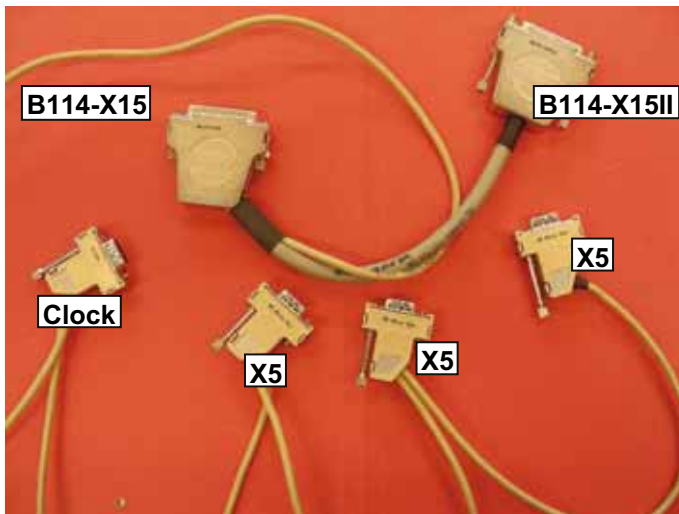

Figure 9.2 Multi Axes Clock Cable A17D79
- Multi Axes Clock cable (A17D79, Figure 9.2)